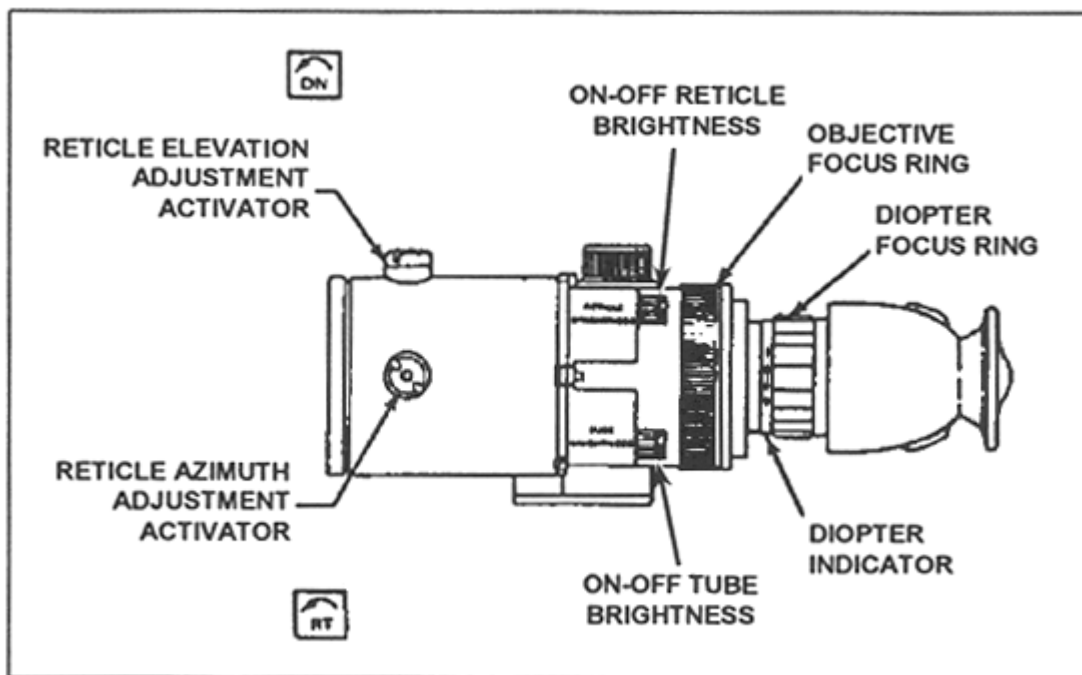

Figure 2
3. Operate the device under normal conditions (Figure 2).
- e. Turn the diopter focus ring (Figure 2) to obtain the clearest image of the reticle pattern.
- f. Turn the objective focus ring (Figure 2) until the target in the field of view is sharply defined.